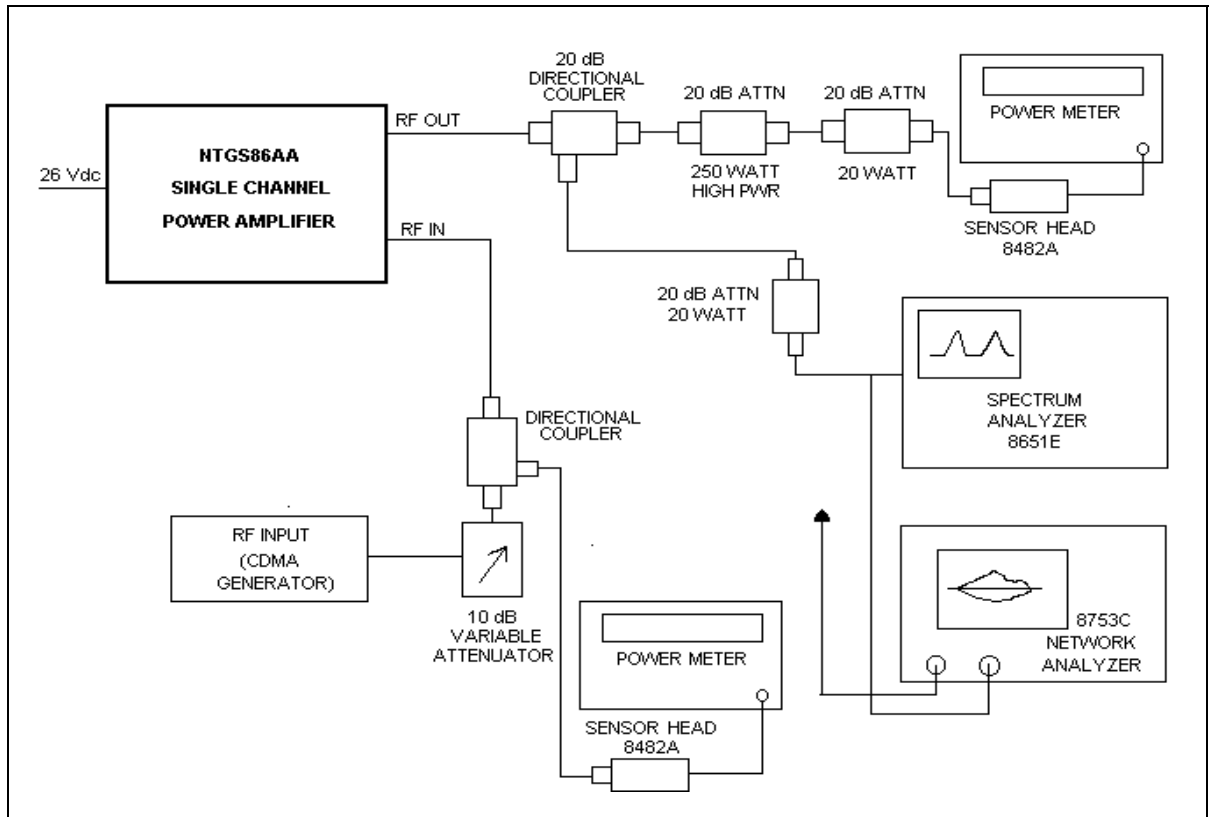

Figure 5-1. NTGS86AA Amplifier Test Setup Diagram
Performance testing should be conducted every 12 months to ensure that the amplifier system meets the operational specifications listed in table 5-3. Also verify system performance after any amplifier module is replaced in the field. The test equipment required to perform the testing is listed in table 5-2, and the test setup is shown in figure 5-1.
1. Connect test equipment as shown in figure 5-1.